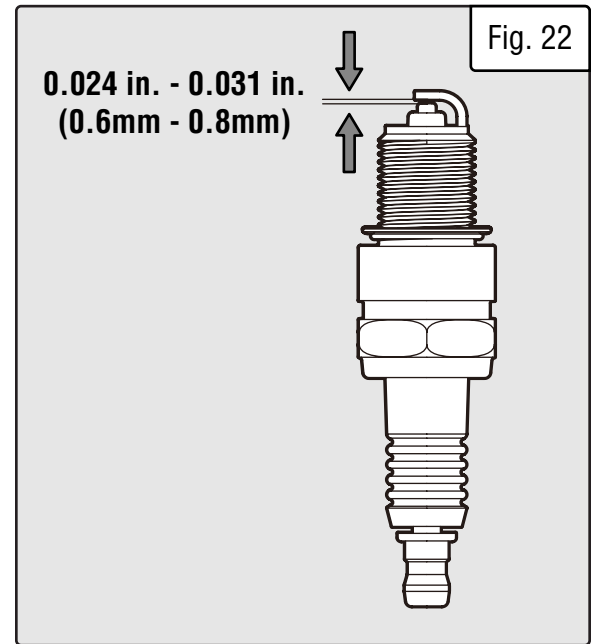

Fig. 22
6. Measure the plug gap with a wire gauge (Fig. 22). The gap should be 0.024 in. - 0.031 in. (0.6mm - 0.8mm). Carefully adjust the gap if necessary.